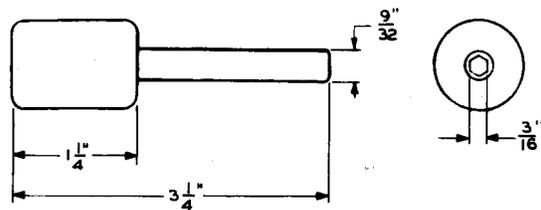

Fig. 7—220 Hex, Single-End Socket Wrench
2.07 **220:** The 220 tool (Fig. 7) is equipped with a 3/16-inch socket which forms part of the 221 tool.